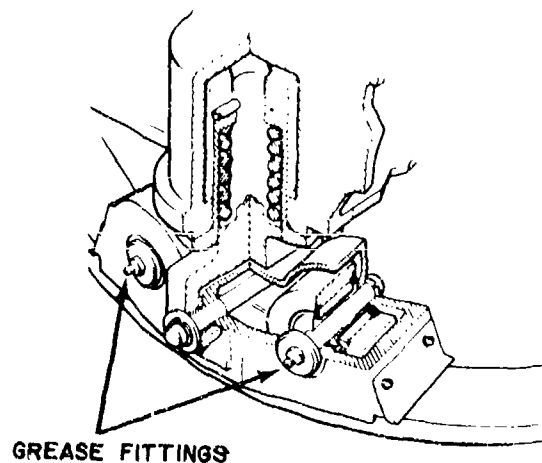

Figure 4-7. Roller support.
(2) *Supports.* Two supports are mounted to the underside of the box trail on each side of the pivot. The four rollers of these supports bear upon the stiffening ring of the firing platform (fig 4-7). The roller support on the assistant gunner's side is spring loaded to compensate for the torque created
by the increasing right-hand twist of the round leaving the tube. On the outside of the roller support housing are two grease fittings (fig 4-7) which must be lubricated with GAA monthly or after disassembly.